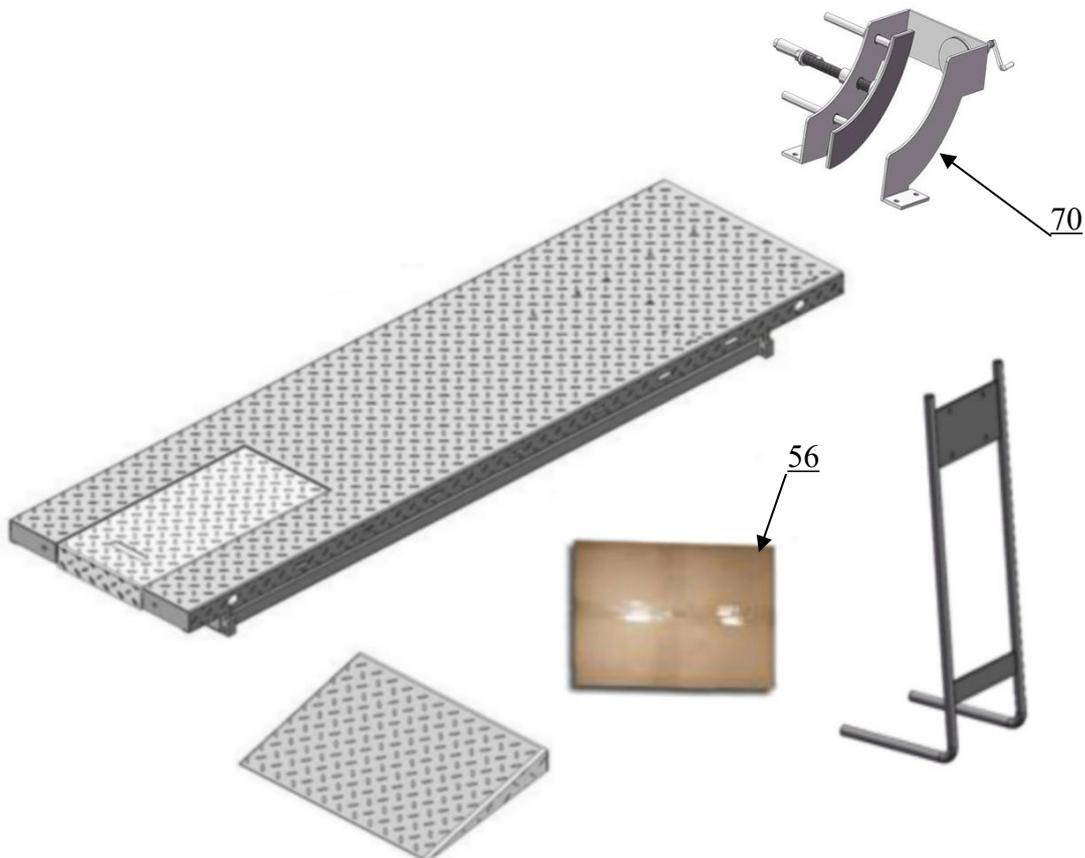

Fig.3
1. Packaged cargo (lift, drive-in ramp, parts box, power unit stand, wheel vise). Move the parts aside, open the outer packing and check the parts according to the shipment parts list. **(See Fig.3)**